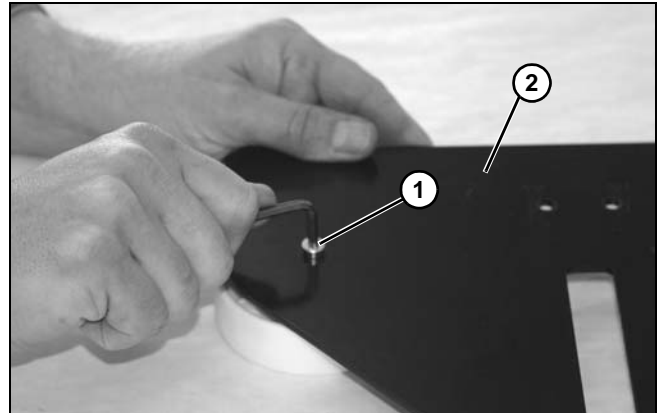

Figure 108
8. Remove socket head screw (**Figure 108, item 1**) on weighted take-up plate assembly (**Figure 108, item 2**).